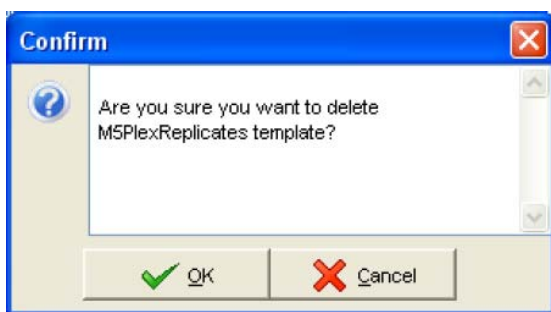

Figure 4.22 Confirmation box
- ⇒ A confirmation box appears (Figure 4.22).